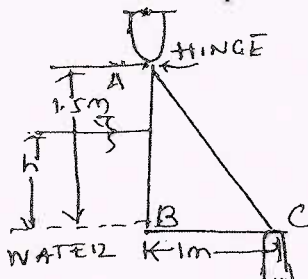

Fig.Q3(b)
- b. A gate closing an opening is triangular in section as shown in Fig.Q3(b). The gate is  $1\text{m}$  long (in the direction perpendicular to the plane of the paper) and it is made up of concrete weighing  $24$  kN/m3. If the gate is hinged at the top and freely supported at one of the bottom ends, find the height of water  $h$  on the upstream side when the gate will just be lifted.